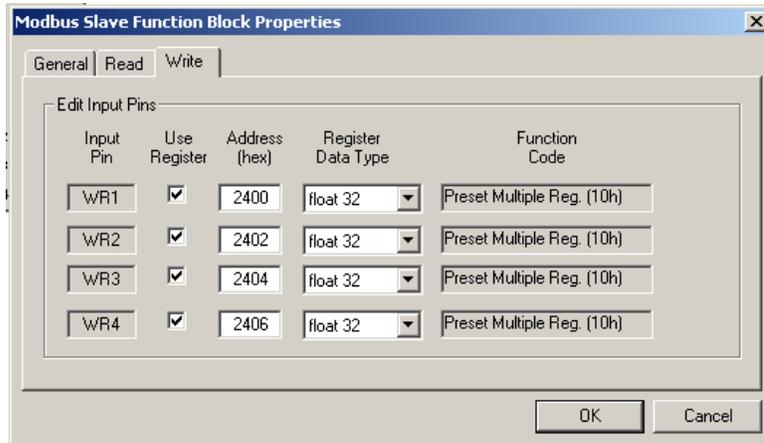

Figure 2
Accept (OK) the entries. Note that floating-point data requires 4 bytes or two consecutive addresses. See figure 2.